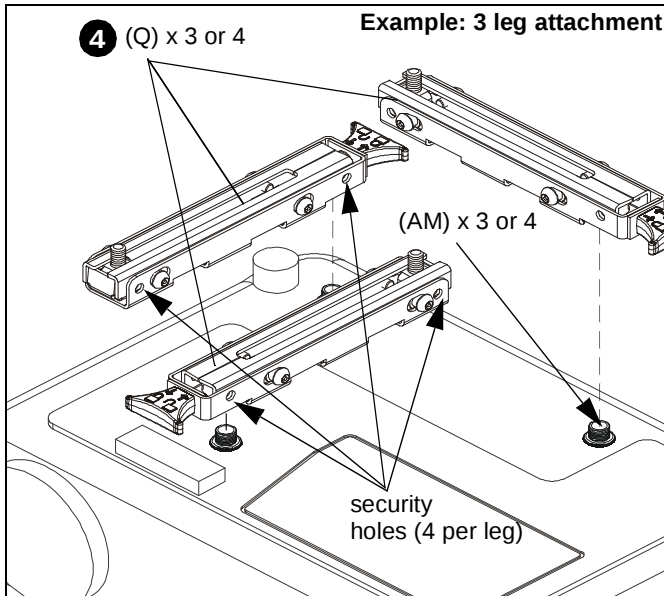

Figure 4
4. Place interface legs (Q) over screw adapters (AM). (See Figure 4)
7. If projector security is required, fasten one 10-24 x 3/8" security button head screw (AL1) through one of the four security holes in EACH leg using the 5/32" security hex key (AL2). (See Figure 4)